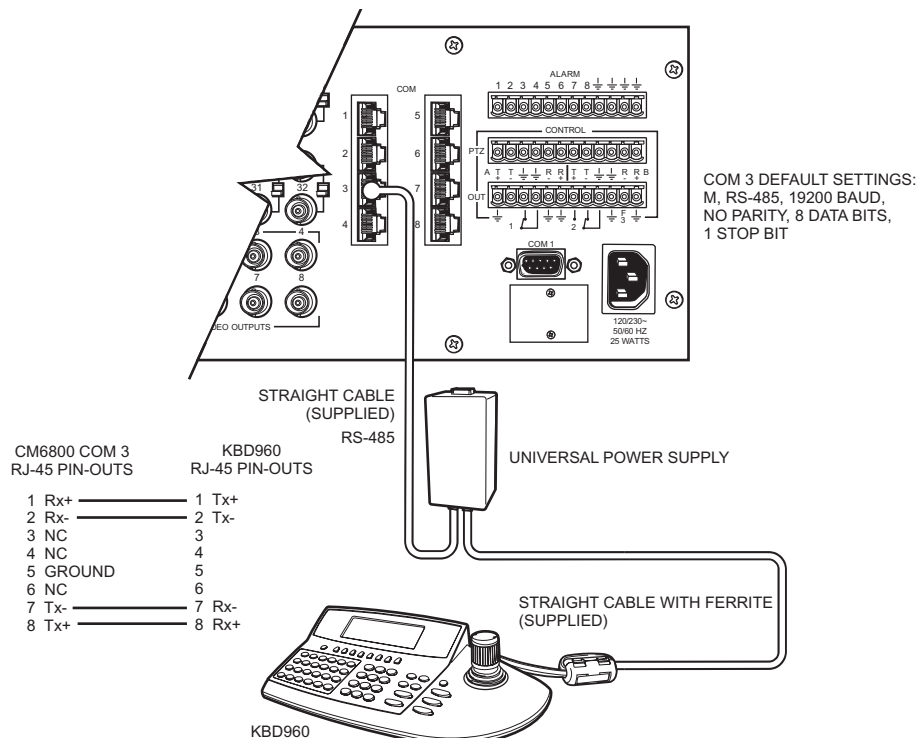

Figure 2. Connecting to the CM6800
2. Connect the RJ-45 straight cable with ferrite from COM 1 of the keyboard to the power supply. The ferrite end of the cable must go into the keyboard. See Figure 2.